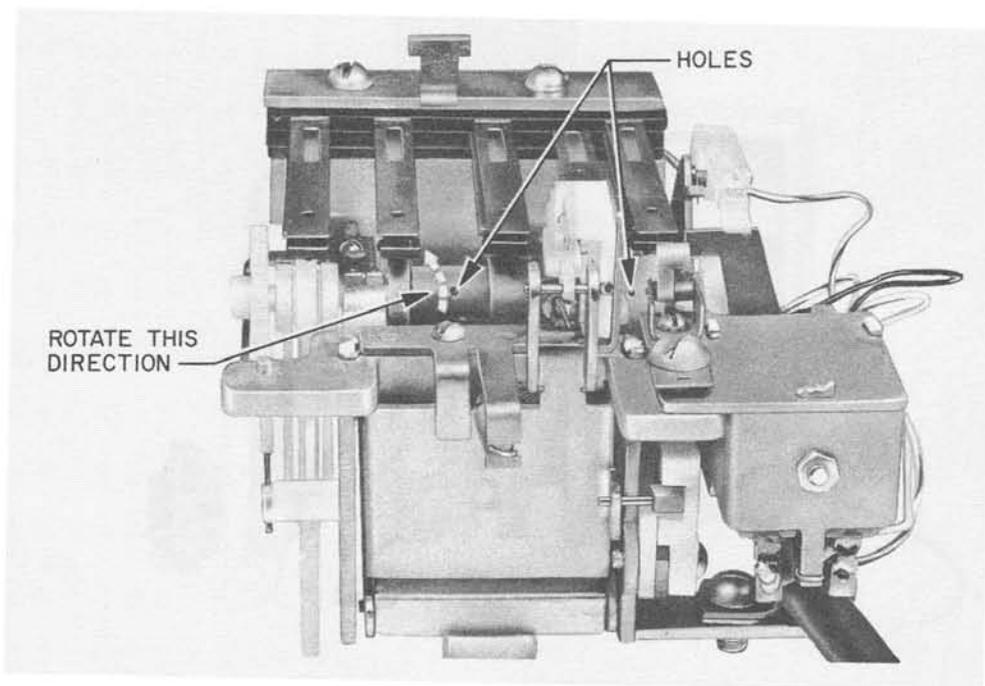

Fig. 3 – Totalizer, Front View
1. Insert one of the paper clips into the hole located near the offset on the right end of the shaft. (See Fig. 3.)